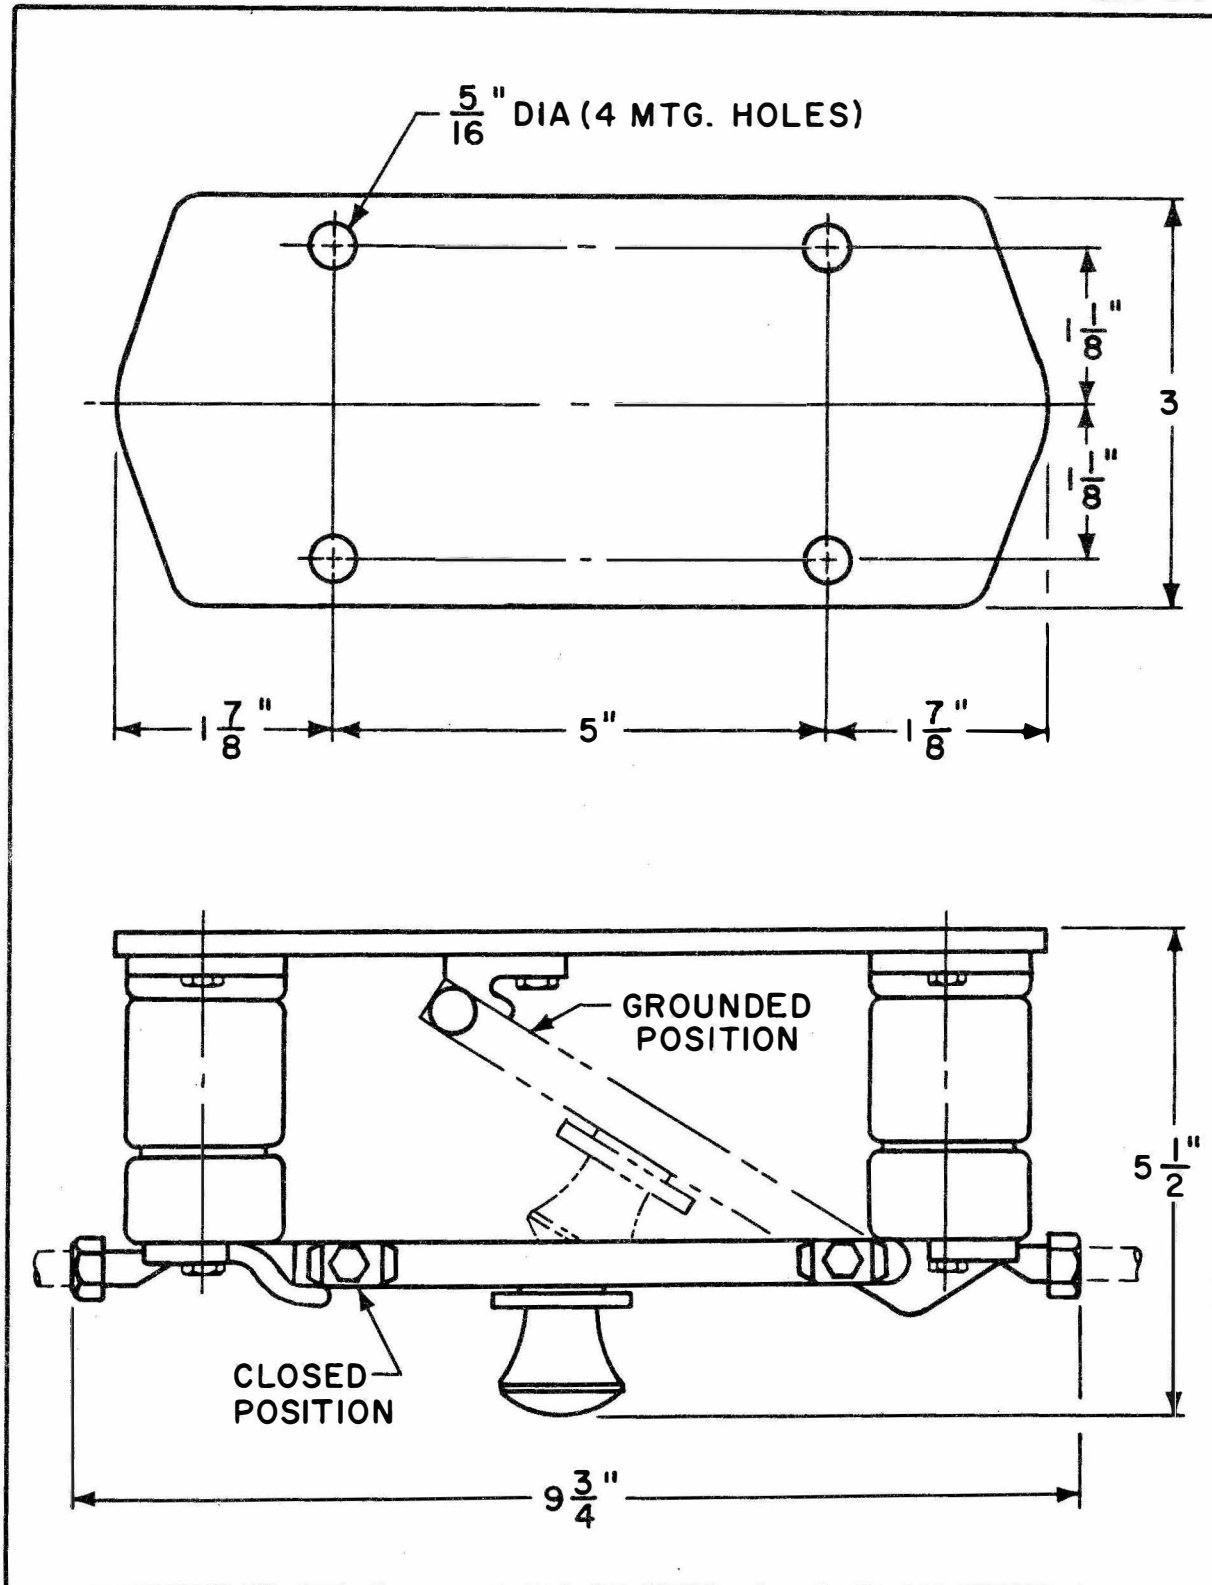

Figure 16-11. Antenna Disconnect Switch Type 24223
(3) **NAVY TYPE 24223.**—Antenna disconnect switch Navy Type 24223 is shown in figure 16-11. This disconnect switch is a single-pole, double-throw knife switch. It has two positions: "CLOSED" and "GROUNDED". In the "CLOSED" position the radio transmitter is connected to the antenna. In the "GROUNDED" position the antenna is grounded and the transmitter is disconnected from the antenna. It has a bus bar clamp type terminal in the ends for clamping on a 3/8 inch OD copper antenna bus. The switch is supported by two Navy Type 61174B insulators (see table 16-3 for specifications).